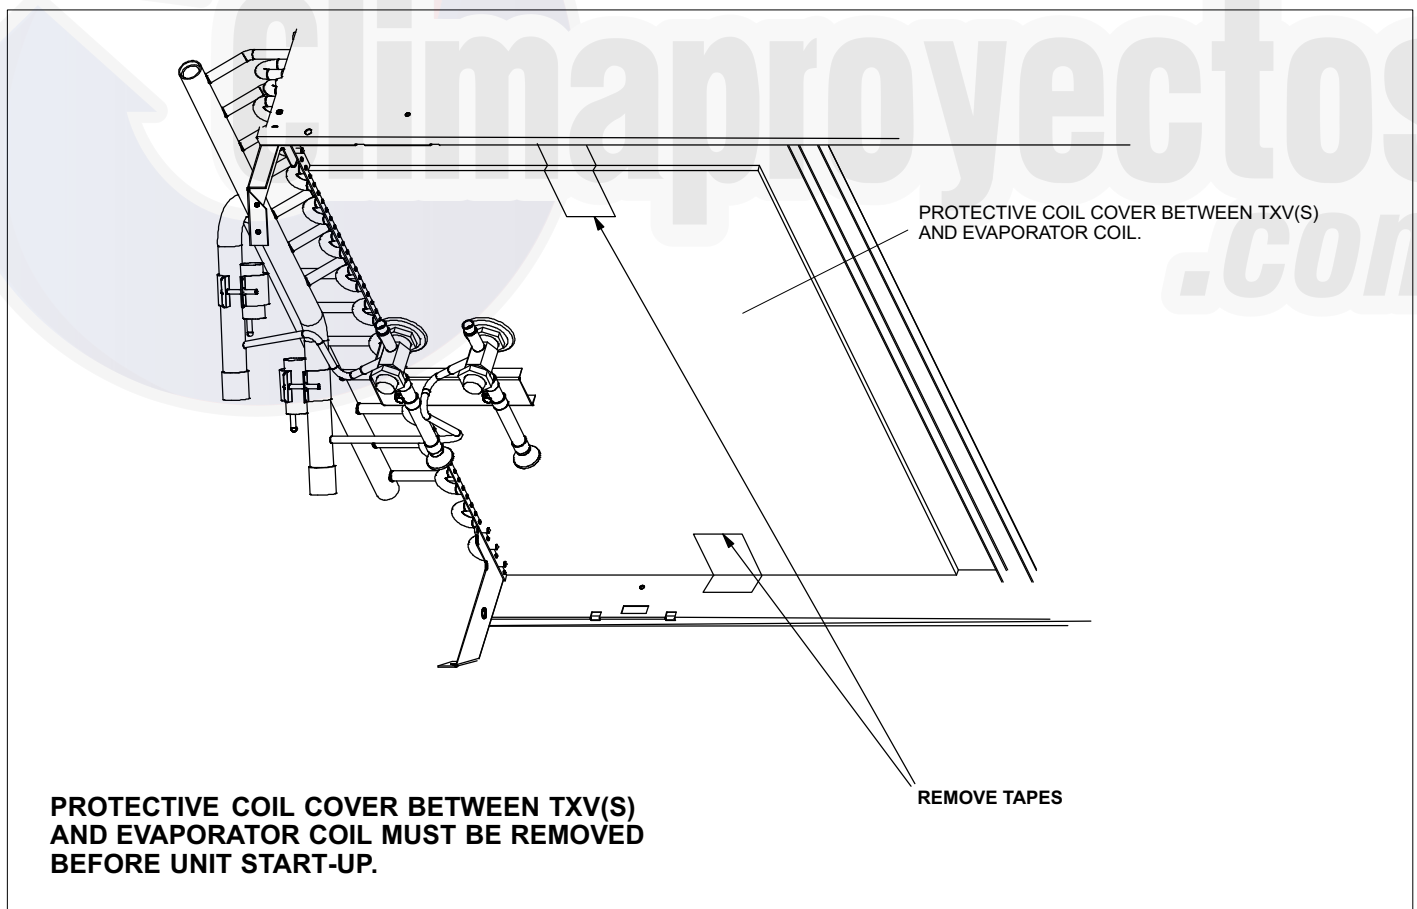

Figure 1. Protective Coil Cover Removal
8. Remove protective coil cover between TXVs and evaporator coil as illustrated in figure 1.